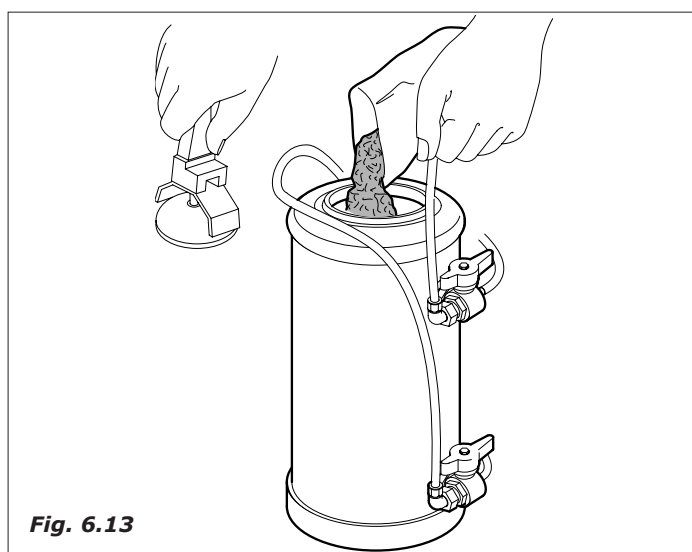

Fig. 6.13
- remove the cover and introduce 1,5 kg of normal cooking salt (Fig. 6.13)